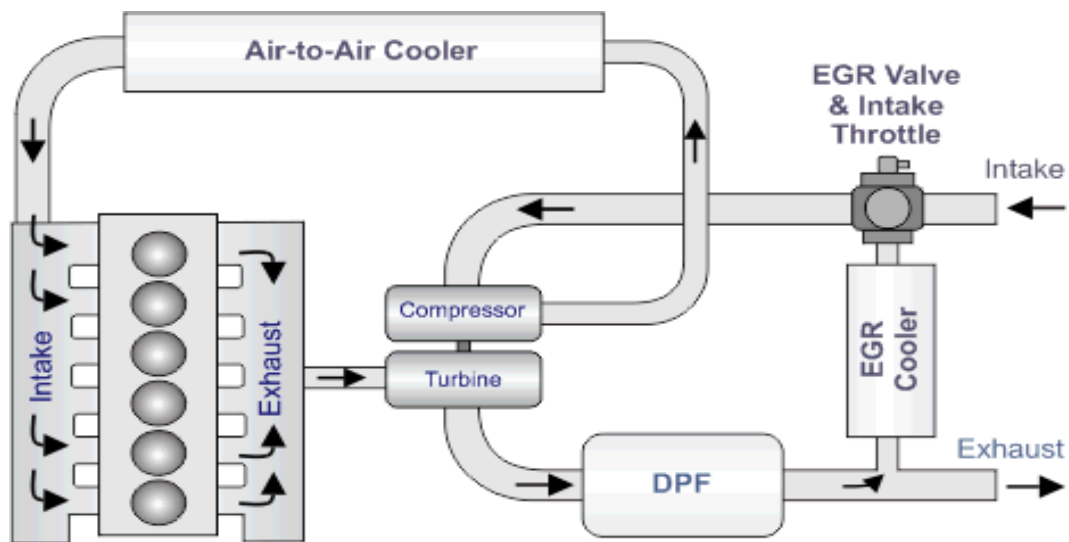

Figure 6 – Engine EGR, Fixdapp.com (2019)
Exhaust Gas Recirculation (EGR) – The EGR system is very helpful in reducing the NO_x produced by the engine. It uses the exhaust gases and reuses some in the cylinder to reduce the amount of oxygen being used and lowers the combustion temperatures, so therefore there's less oxygen to combine with the nitrogen to produce less Nitrogen Oxide (NO_x). An image of this system is shown by Figure 6 in the bibliography.
- **Figure 6** – Engine EGR system diagram